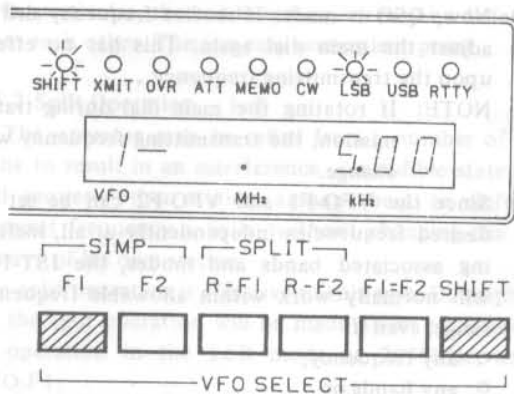

Figure 3.15
(5) With seeing the frequency display, set the main dial to the given frequency, the current frequency minus 5kHz, as shown in Figure 3.15.